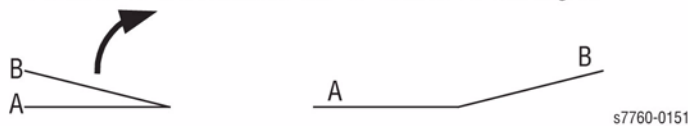

Figure 1 Fold Specification
- Measure X1 and verify Fold Position on each job against the Fold Specification table in Figure 1.